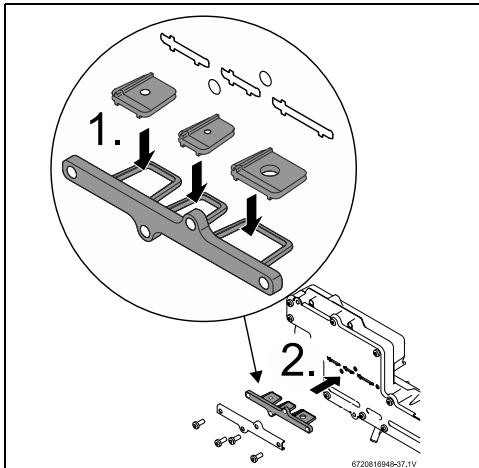
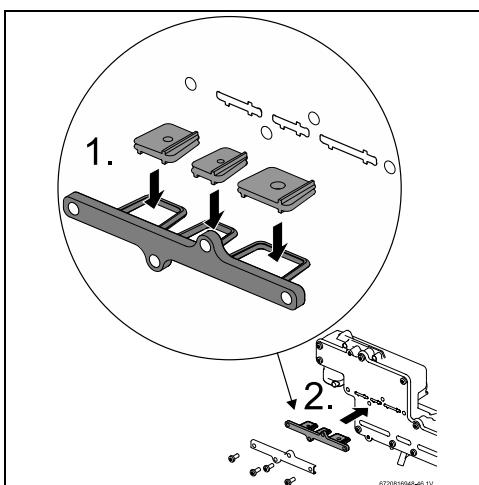

Fig. 52 199kBTU appliance gas conversion kit
Fig. 53 160kBTU appliance gas conversion kit
- ▶ The 3 restrictor plates should be pre-assembled onto their tray, but if loose in box, follow installation instruction, as shown in fig. 52 [1].
- ▶ Insert the LP conversion plate in the appropriate location shown in Fig. 52 [2].
- ▶ All three flow restrictors and seal must be assembled according to the Fig. 52 and Fig. 53, to ensure correct appliance performance.